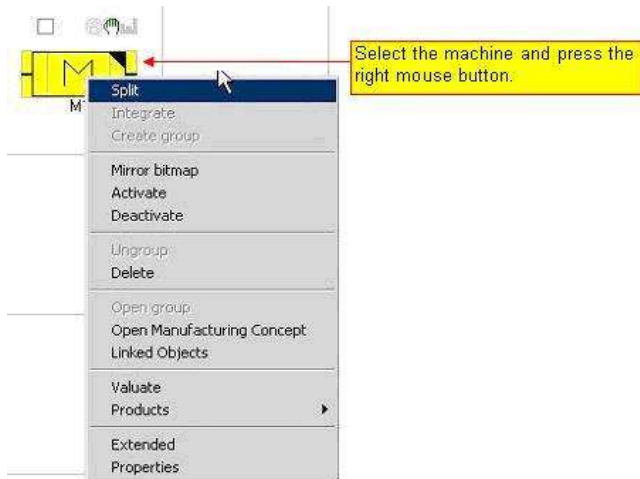

Figure 24: The Split Contextual Menu
- 3) Press the right mouse button and click **Split**. Please refer to the Figure 24.